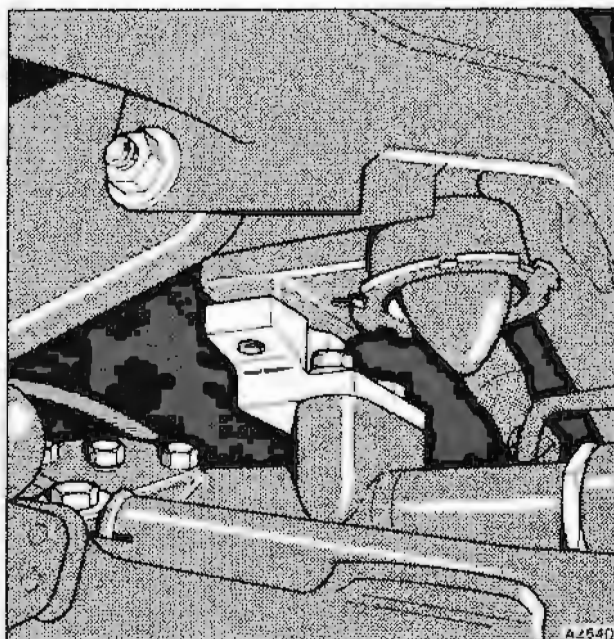

Fig. N9-1 Modified arrangement – adapter blocks to sub-frame
3. Fit all setscrews and washers provided for the adapter blocks into position, in preparation for fitting the rack. Fit the adapter blocks loosely to the sub-frame (see fig. N9-1).